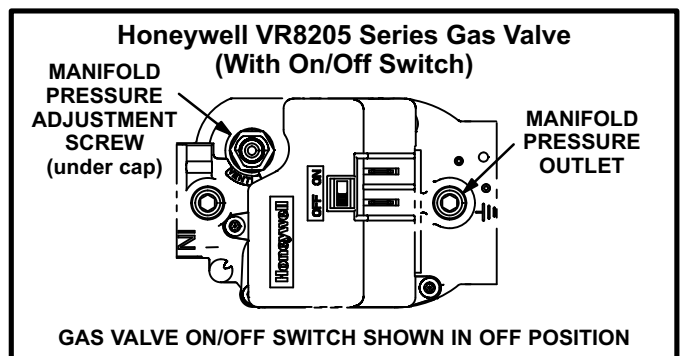

FIGURE 22
#### Gas Valve Operation (Figures 22, 23, and 24)
- 6 - *Honeywell VR8205 Gas Valve with ON/OFF Switch* - Move gas valve switch to **OFF**. See figure 22.
- 8 - *Honeywell VR8205 Gas Valve with ON/OFF Switch* - Move gas valve switch to **ON**. See figure 22.
- 4 - *Honeywell VR8205 Gas Valve with ON/OFF Switch* - Move gas valve switch to **OFF**. See figure 22.
2 - After the line pressure has been checked and adjusted, check the manifold pressure. A natural gas to LP/propane gas changeover kit is required to convert the unit. Manifold pressure for all units fueled by natural gas at all altitudes is 3.5" w.c. Manifold pressure for all units fueled by L.P./propane gas at all altitudes is 10.0" w.c. See figures 22, 23 and 24 for the location of the manifold pressure adjustment screws.